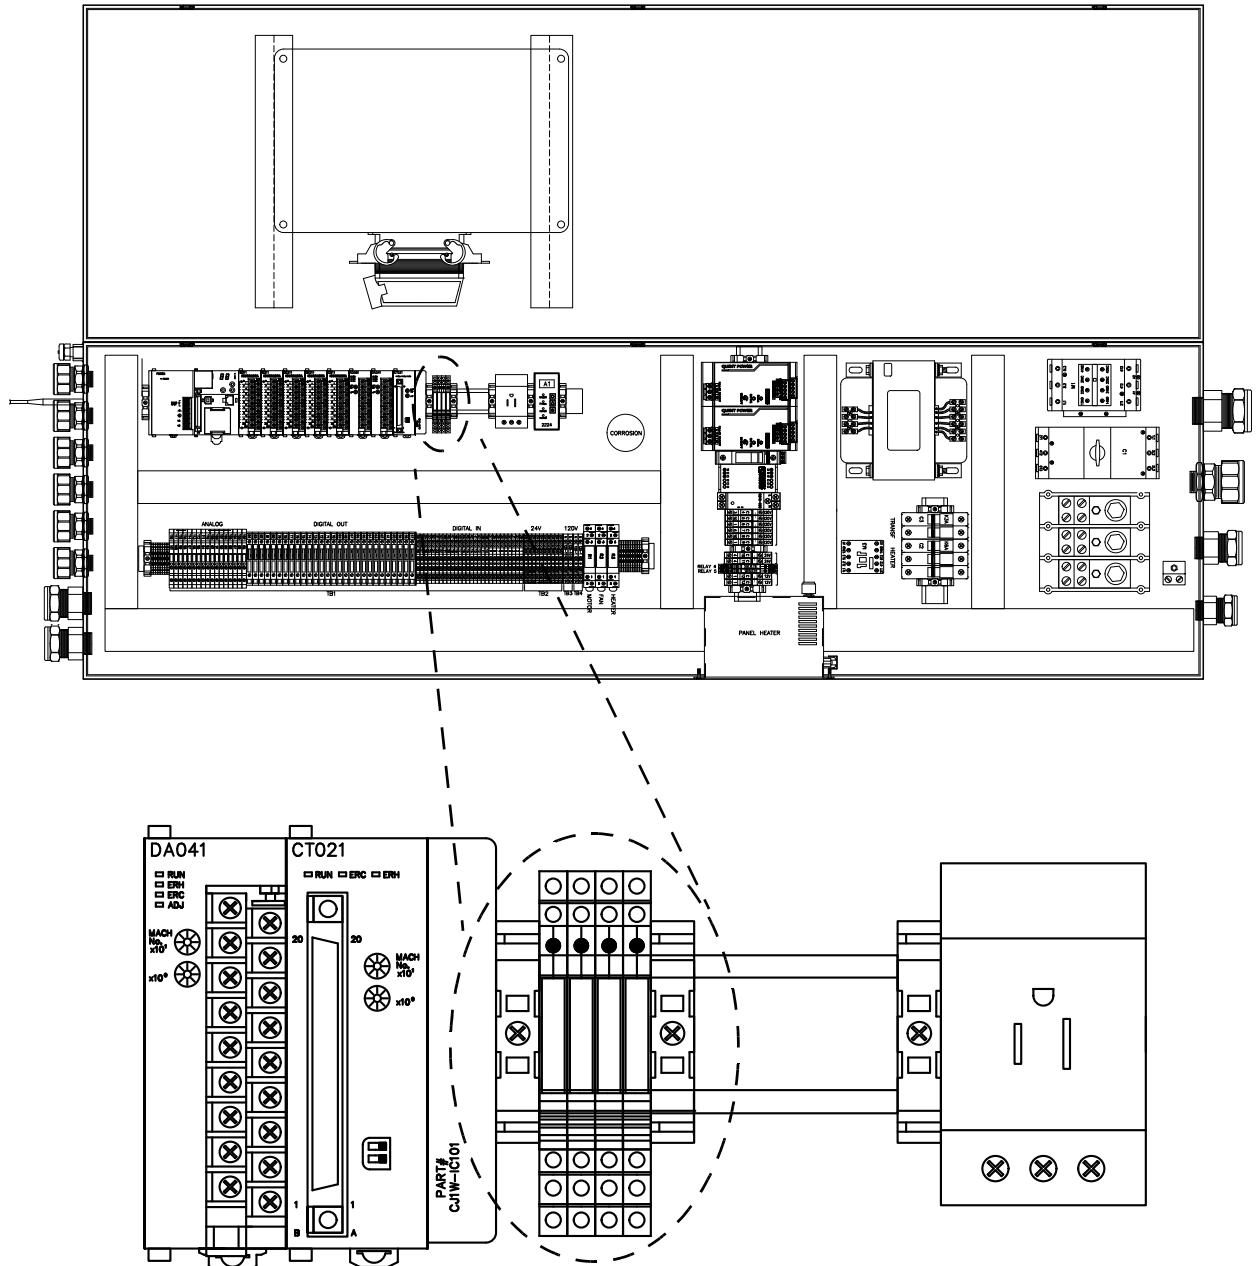

Figure 5: Relays and End Bracket on DIN Rail of 480V Main Panel Box
- Install the four electromechanical relays (Canrig Part No. E11773) on the DIN rail between the PLC modules and 120VAC receptacle (Figure 5, page 7) using the end bracket (Canrig Part No. E10955) to ensure they stay in place.
- Use red 18 AWG cable (Canrig Part No. E13660) to connect the red jumper bar to terminal TB1L28 in the control console (Figures 5, 6, and 8 on pages 7, 8, and 9 respectively).